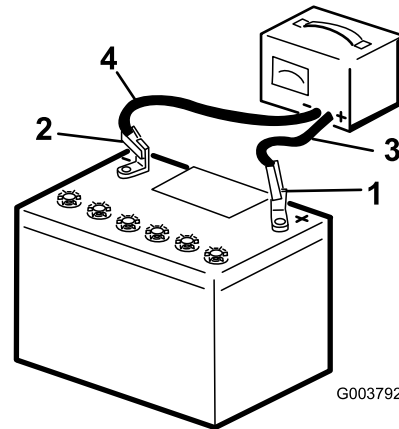

Figure 43
2. Charge the battery at a rate of 3 to 4 A for 4 to 8 hours (Figure 43). Do not overcharge the battery.
3. When the battery is fully charged, unplug the charger from the electrical outlet, then disconnect the charger leads from the battery posts (Figure 43).